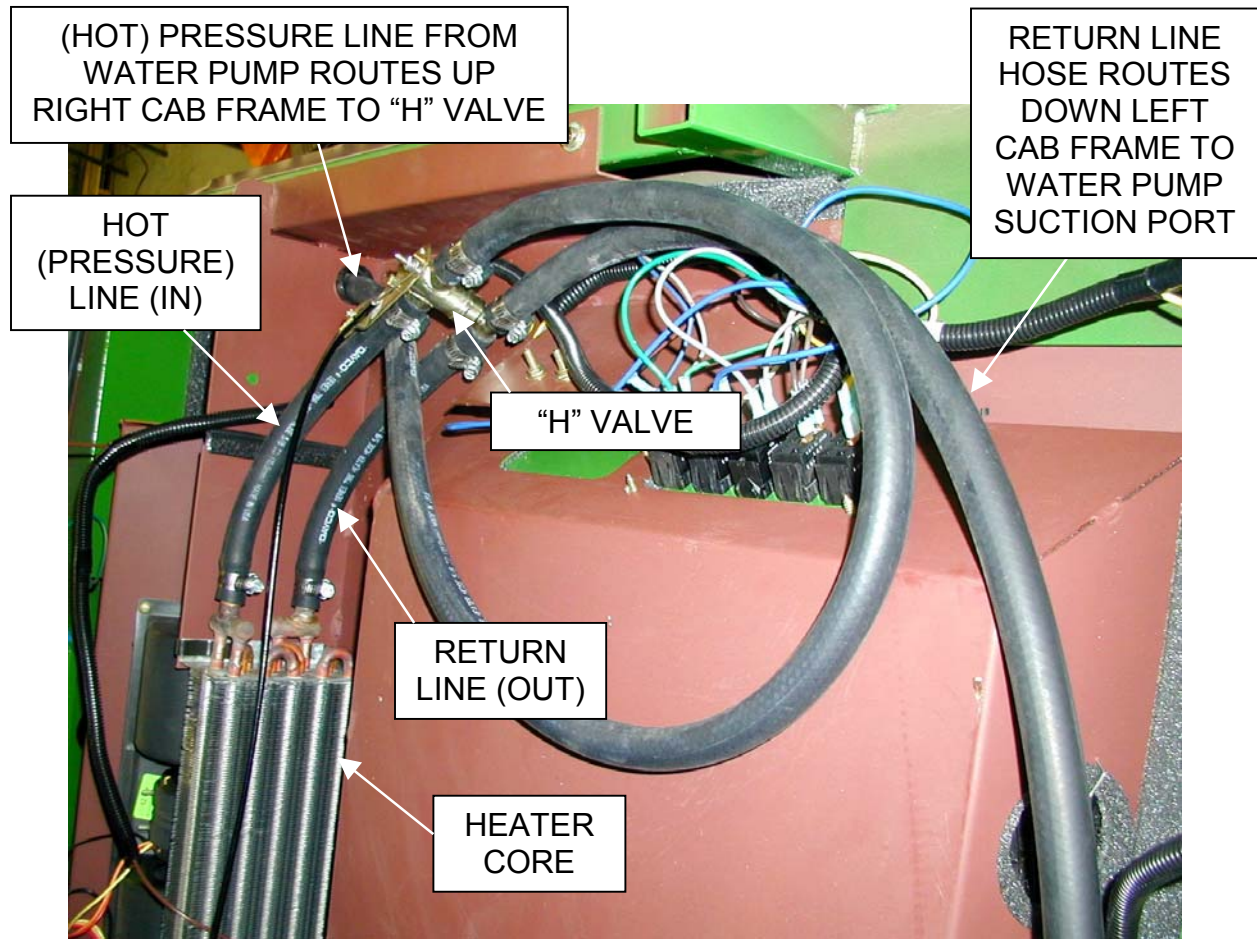

Figure 40
- 40) To check the "H" Valve and hose routing, remove the roof to inspect the cab's headliner heater area. See Figure 40.
- 41) Verify hose routing from water pump nearest the thermostat to the top nipple of the "H" valve. See Figure 40.